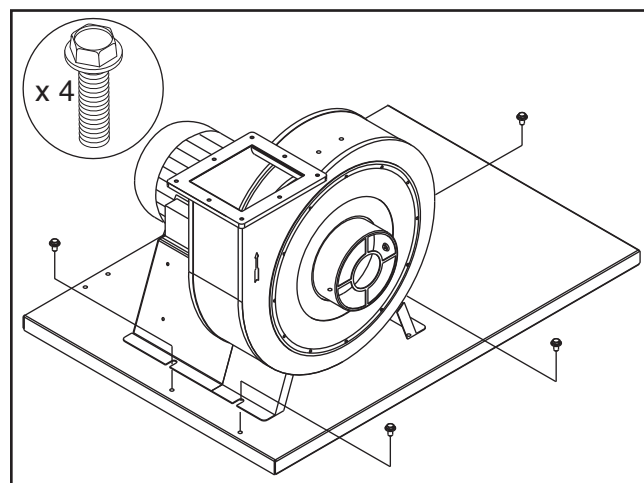

Figure 24. Mounting collector to base.
2. Set the collector body on top of the base plate so the intake portion is near the edge of the base plate and the bolt holes are aligned, as shown in **Figure 24**. Secure the collector body to the base plate with (4) 5/16"-18 x 1/2" flange bolts.